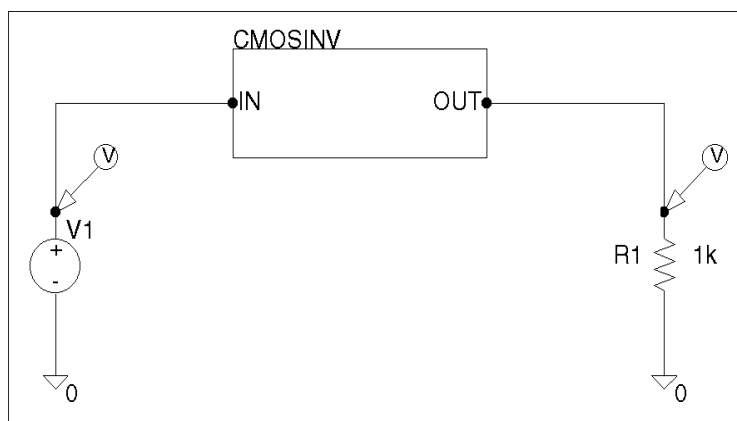
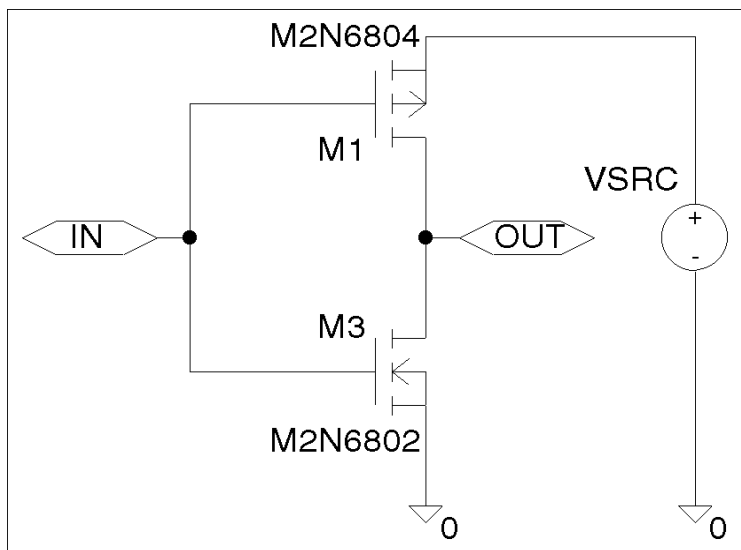

Figure 20 *Top-level Schematic Drawing for CMOS Inverter*
Figure 21 Schematic of CMOS Inverter
Follow this example to create the top-level circuit shown in Figure 20 and the inverter schematic shown in Figure 21.
Now that you have placed all of the symbols, wire the symbols to look like the schematic shown in Figure 20.
Now draw the schematic for the CMOSINV block as shown in Figure 21.
- 4 Press **Ctrl+R**, **Ctrl+R** and **Ctrl+F** to rotate the symbol twice and flip it once so that the source and bulk pins appear at the top. (To verify M1, see Figure 21 on page 248.)
Click the Draw Wire button and draw wires to connect parts and symbols as shown in Figure 21.